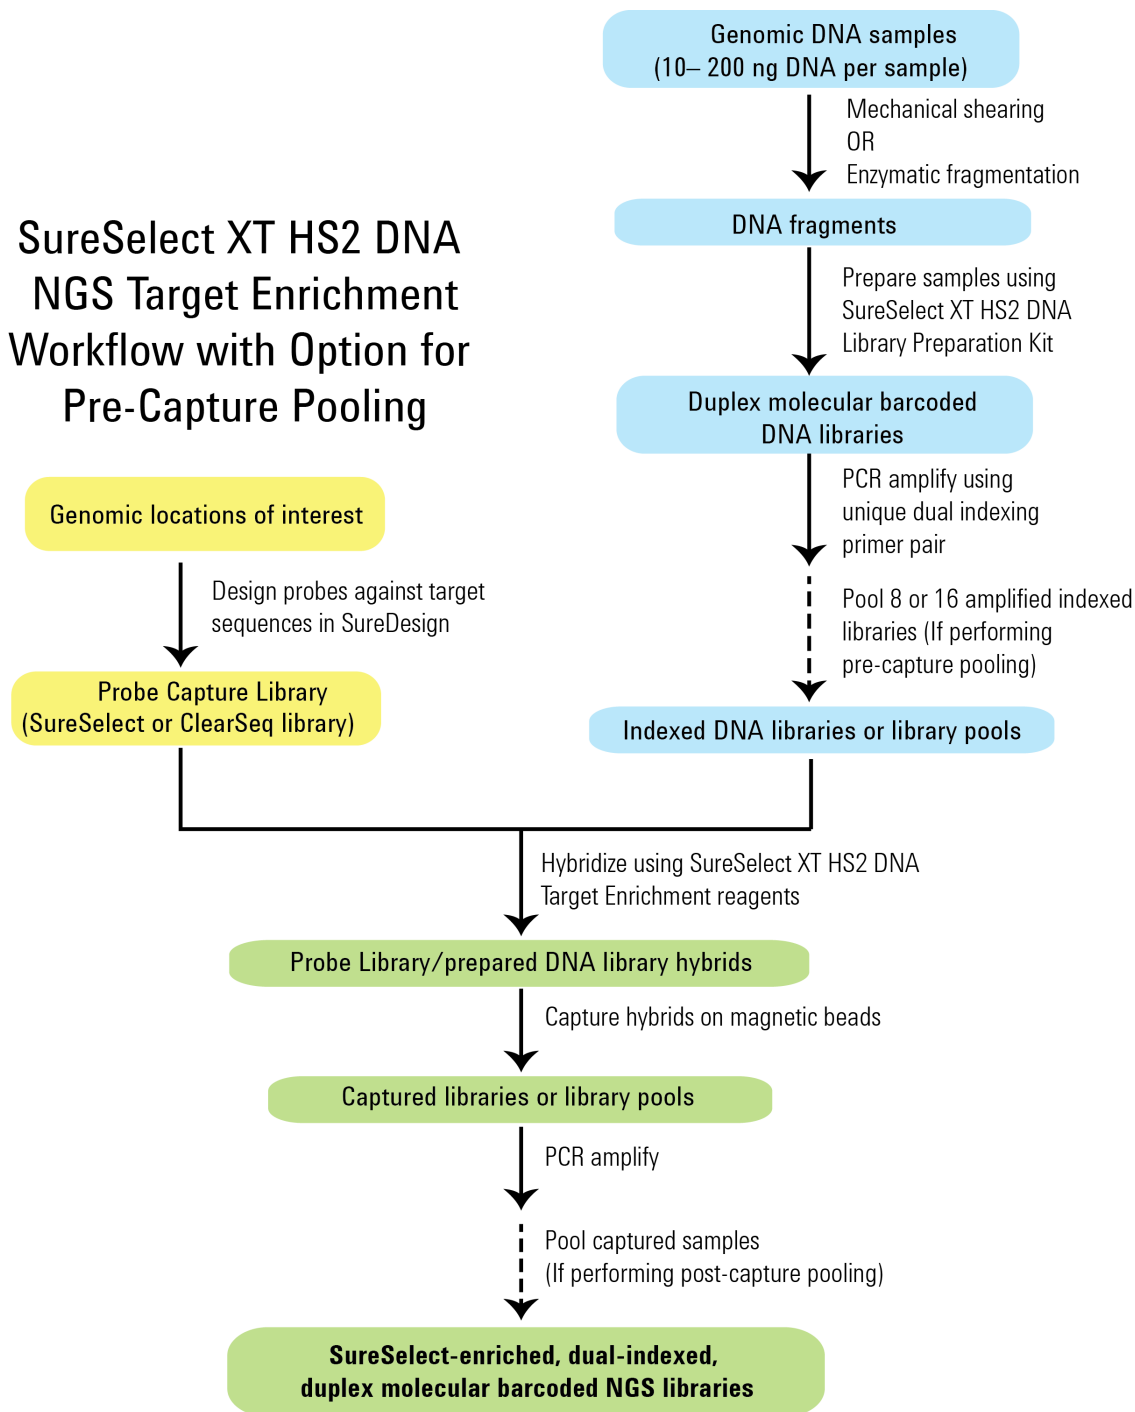

Figure 2 Overall sequencing sample preparation workflow
Figure 2 summarizes the SureSelect XT HS2 library preparation and target enrichment workflow for DNA samples to be sequenced using the Illumina paired-read sequencing platform. For each sample to be sequenced, individual library preparations, hybridizations, and captures are performed.
- At the hybridization step (see Figure 2), you can add a different Probe to each row of the plate. Plan your experiment such that each prepared DNA library corresponds to the appropriate probe row in the sample plate.
- For post-capture amplification (see Figure 2), different probes can require different amplification cycle numbers, based on the probe design sizes. It is most efficient to process similar-sized probes on the same plate. See Table 82 on page 111 to determine which probes may be amplified on the same plate.